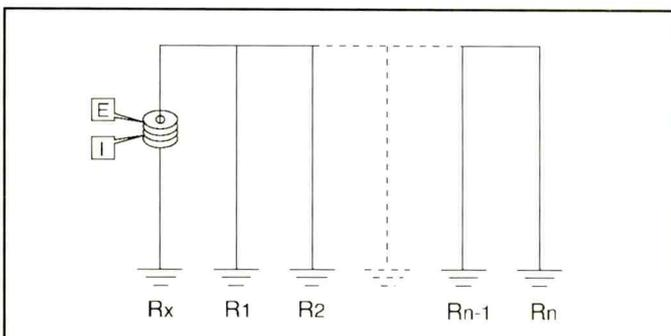
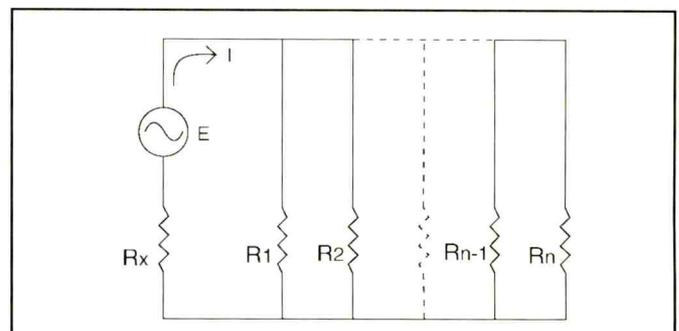

Figure 29.
Figure 30.
Usually, a common distribution line grounded system can be simulated as a simple basic circuit as shown in Figure 29 or an equivalent circuit, shown in Figure 30. If voltage E is applied to any measured grounding pole Rx through a special current transformer (CT), current I flows through the circuit, thereby establishing the following equation.
Therefore, $E/I = R_x$ is established. If I is detected with E kept constant, measured grounding pole resistance can be obtained. Refer again to Figures 29 and 30. Current is fed to a special transformer via a power amplifier from a 1.7 kHz constant voltage oscillator. This current is detected by a detection CT. Only the 1.7 kHz signal frequency is amplified by a filter amplifier. This occurs before the A/D conversion and after synchronous rectification. It is then displayed on the LCD. The filter amplifier is used to cut off both earth current at commercial frequency and high-frequency noise. Voltage is detected by coils wound around the injection CT which is then amplified, rectified, and compared by a level comparator. If the clamp is not closed properly, an “open jaw” annunciator appears on the LCD.